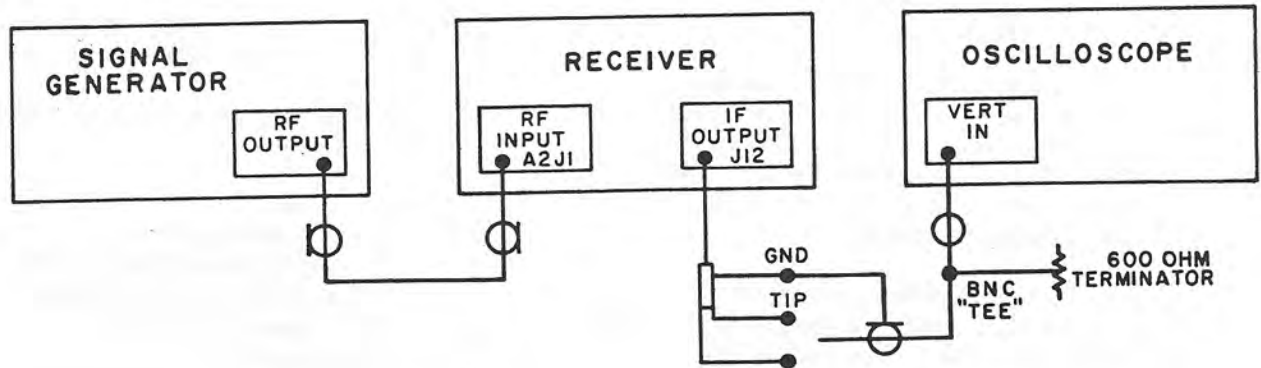

Figure 6-9. Isb Detector/Audio Adjustment, Test Setup
- (1) Test equipment required. A signal generator will be required for this test. Refer to table 1-3 for specifics.
- (2) Procedures.
- (b) Connect rf output of signal generator to RF INPUT connector A2J1. Refer to figure 6-9.
- (1) Test equipment required. The following equipment will be required for this test. Refer to table 1-3 for specifics.
- (b) Connect test equipment as shown in figure 6-9.